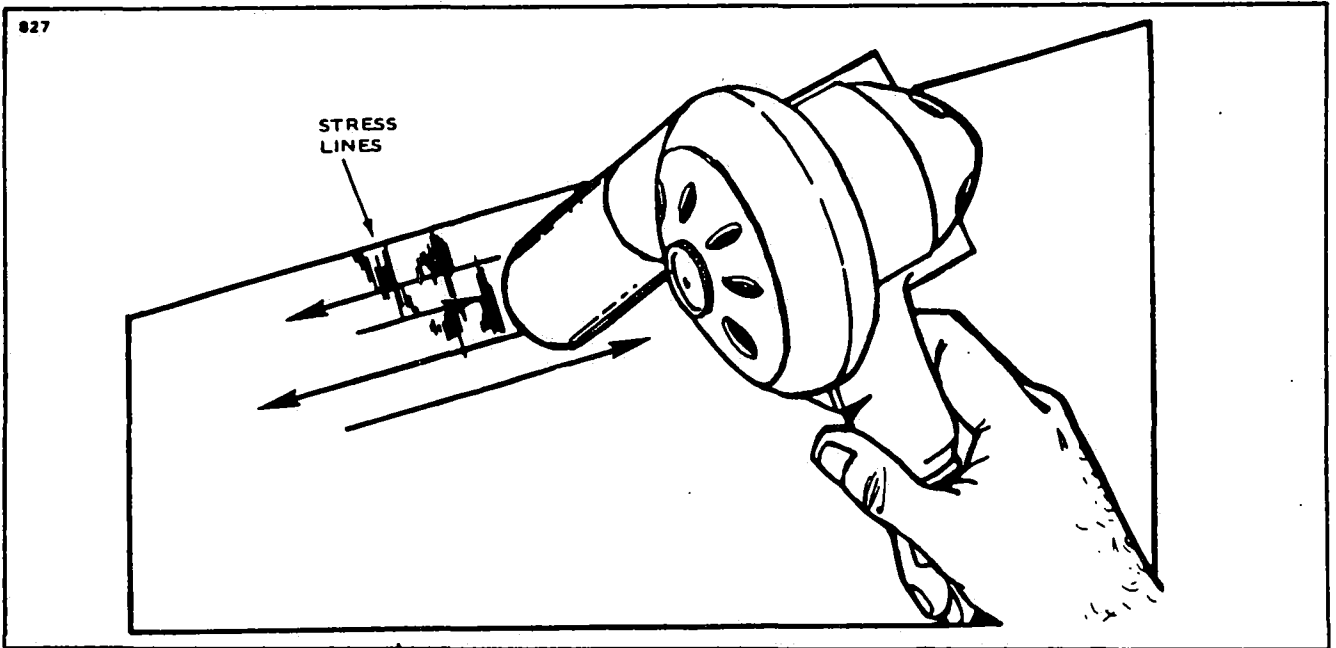

Figure 4-20. Repair of Stress Lines
- f. Stress Lines: (Refer to Figure 4-20.)